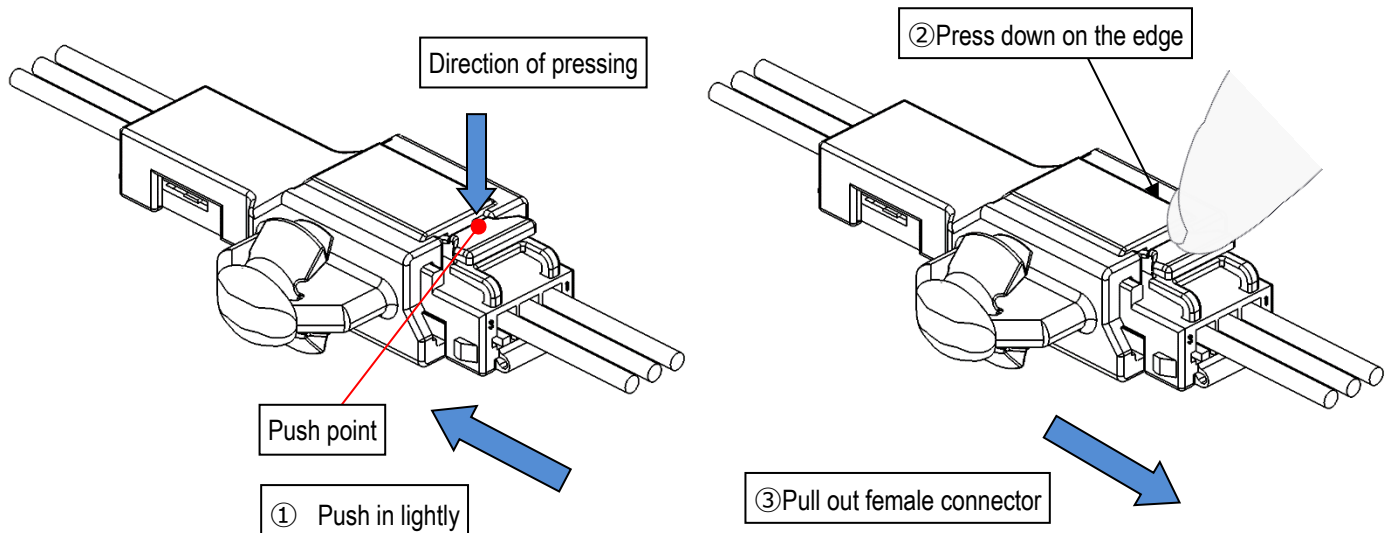

Fig39. Lock arm
- ① Hold the female connector and push it in lightly.
- ② While holding the female connector in, press down fully on the end of the arm (see Fig. 39).
- ③ Keep pressing the lock down, and pull out the female connector.